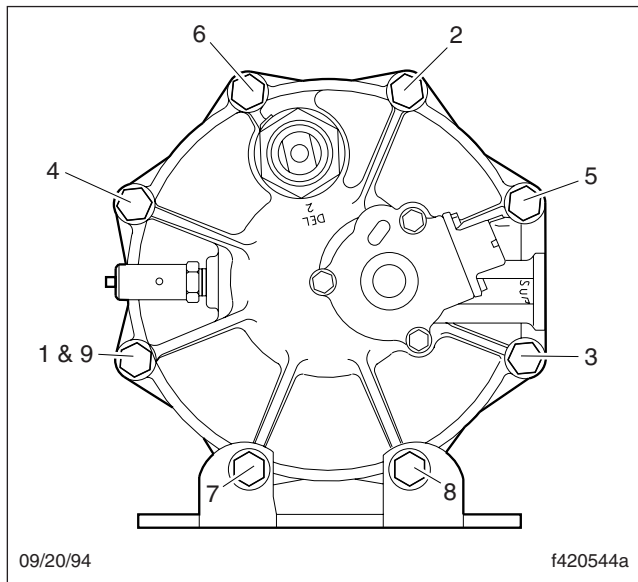

Fig. 2, End Cover to Housing Torque Pattern
16. Install the 6 capscrews, 12 washers, and 6 new Nylok nuts. Tighten the capscrews in a star pattern 270 to 385 lbf-in (3050 to 4350 N·cm). See Fig. 2.